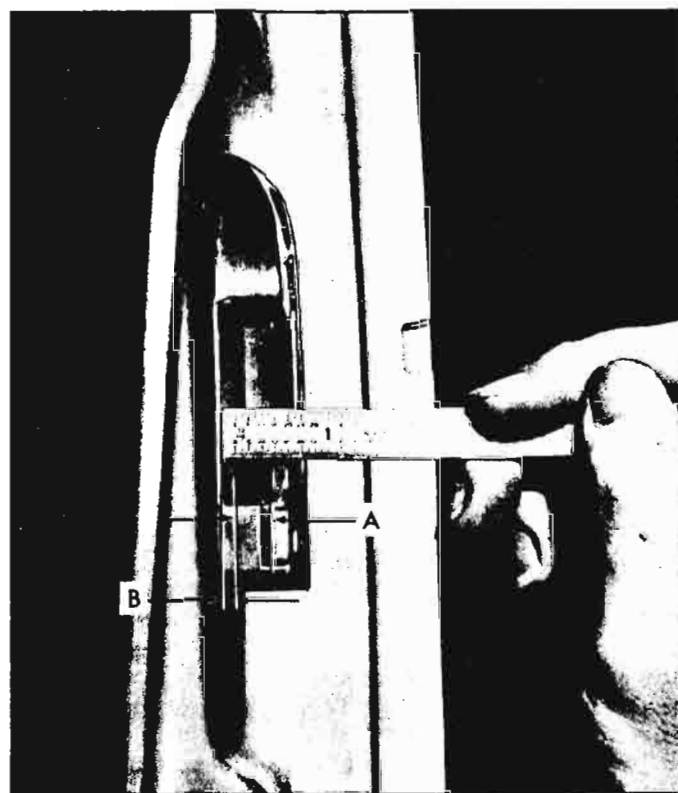

Fig. 10-40—Determining Door Lock Striker Emergency Spacer Requirements
2. To determine if door lock striker emergency spacers are required, apply modeling clay or body caulking compound in door lock striker notch where lock extension engages and then close door to form measurable impression in clay or caulking compound as shown in Figure 10-40.
NOTE: Dimension "B" in Figure 10-40 should never be less than $\frac{1}{8}$ ".